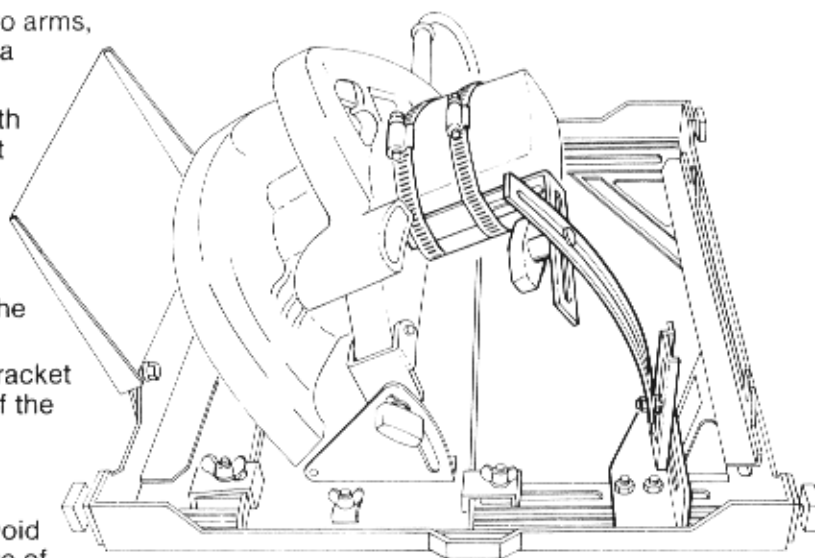

FIGURE 4
- 9** Before fully tightening up all the fastenings check that the saw can be adjusted through its full range in both depth of cut and angle of cut. Note that the slotted strap (C) is designed to flex in a curve when the saw is angled for bevel cutting. **Figure 4.**